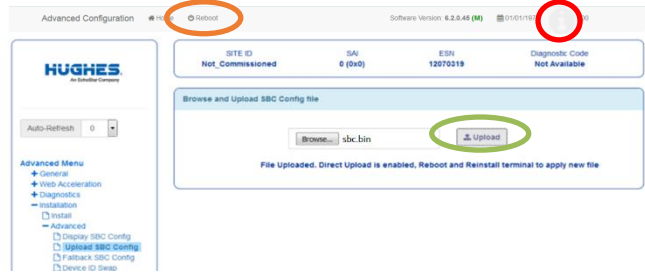

Figure 14
- On the top bar on the right click ‘**X**’ icon to access the Advanced Page (fig. 14)
- On the main page browse your files, select the *sbc.bin* file, click on ‘**UPLOAD**’ (fig. 14)
- Click ‘**Reboot**’ on the top (fig. 14)